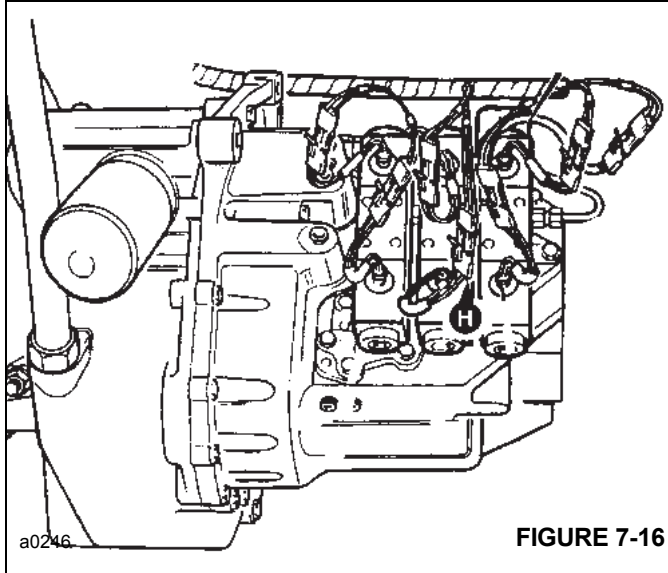

FIGURE 7-16
3. Remove the layshaft clutch solenoid feed connector **H**, Figure 7-16. This ensures only the forward high clutch is energized when 2nd gear forward is selected.